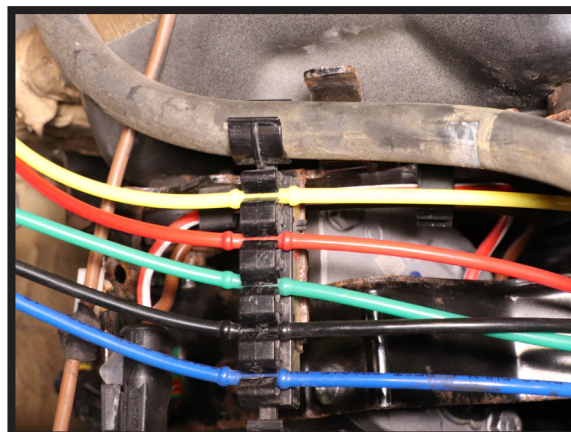

FIGURE 40
10. ENSURE ALL LINES ARE CLIPPED BACK ON TO THE COMPRESSOR ASSEMBLY BRACKET. (FIGURE 40)